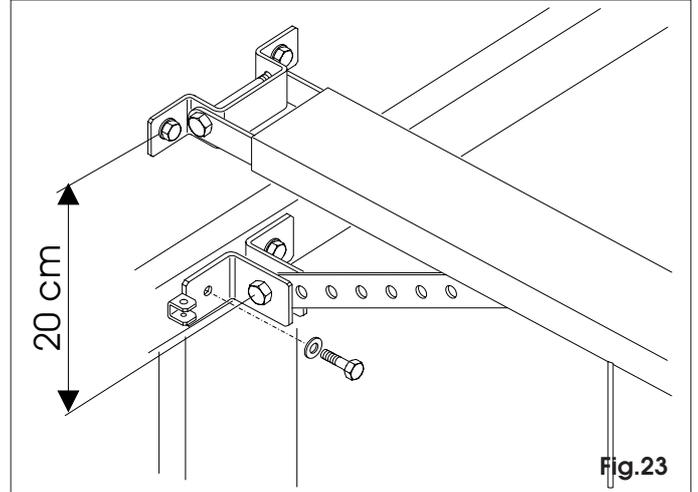

Fig.23
**N.B.: The distance between drive bracket and sliding rail bracket must not exceed 20cm (max 30°) (fig.23).**
7.22 Check the position, drill and secure with suitable screws (fig.23).